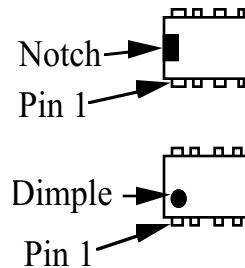

Figure 4-7
☐ Insert U1 into its socket, with the notched or dimpled end of the IC aligned with the notched end of the PC board outline. (Figure 4-7 shows an 8-pin IC; U1 is similar but has 18 pins.) Press U1 down into the socket as far as it will go.
□ Install the 8-pin ICs, U2 (MAX518), U3 (24LC04), and U5 (LM358) on the bottom side. Orient the notched or dimpled end of each IC with the notched end of its component outline (see Figure 4-7). Bend two leads outward slightly on the opposite side of the board to hold the devices in place, but do not solder yet.